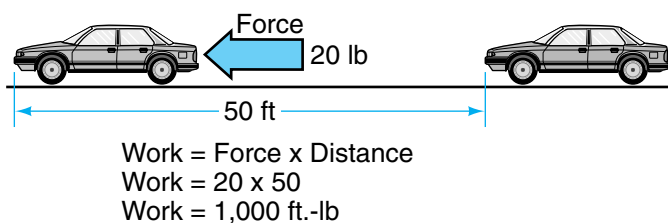
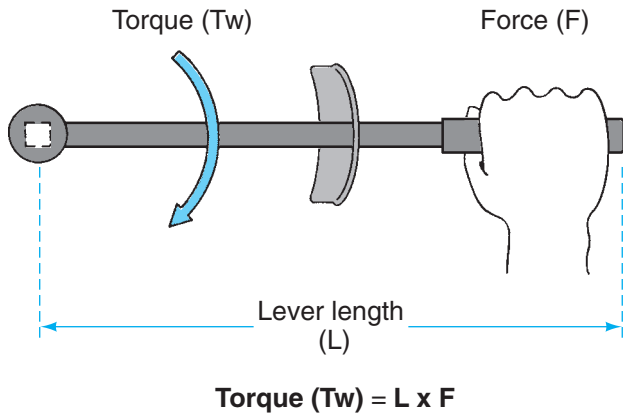
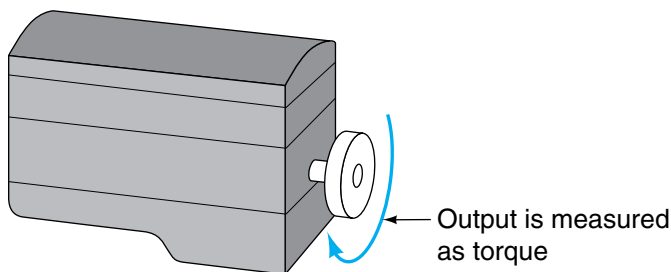

FIGURE 10.89 Work measured in foot-pounds.
FIGURE 10.90 Tightening a bolt is a use of torque. (Reproduced by permission of Deere & Company, John Deere Publishing, Moline, IL. All rights reserved)
FIGURE 10.91 Torque is the amount of turning force exerted by the crankshaft.
One *foot-pound* is when 1 pound is moved for a distance of 1 foot. For example, moving a 20-pound weight 50 feet results in 1000 foot-pounds of work (**Figure 10.89**). Lifting a 10-kilogram weight a distance of 1 meter results in 10 meter-kilograms of work.
Power is how fast work is done or how fast motion is produced against a resistance. **Torque** is the ability to make power. It is defined as the tendency of force to rotate a body on which it acts. Tightening a bolt is a use of torque (**Figure 10.90**). Torque in an engine is the amount of turning force exerted by the crankshaft (**Figure 10.91**).
However, torque and work are very different quantities. Work is force times the distance moved (see Figure 10.89), and torque is force times leverage, which is the distance from a pivot point to the applied force (see Figure 10.90). When distinguishing work from torque, the metric unit of measurement for torque is the *newton-meter* (Nm) and the metric work unit is the *joule* (J). The English imperial system expresses torque as *pounds-feet*, whereas work is expressed as *foot-pounds*.